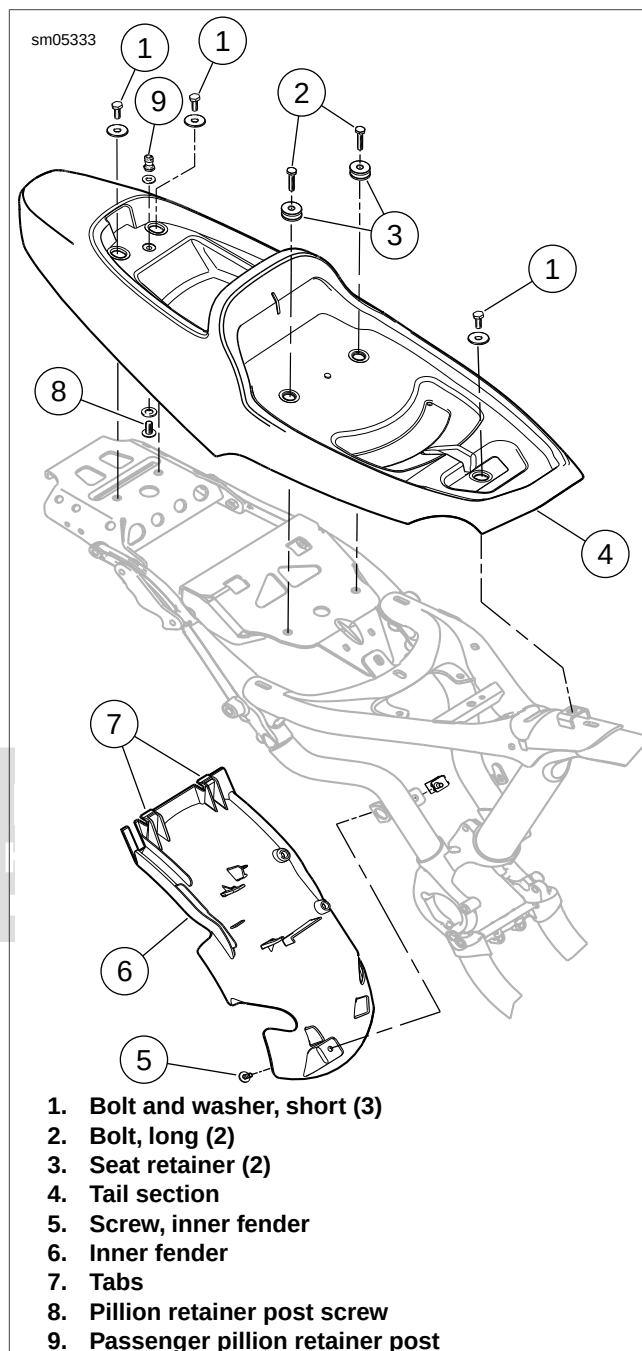

Figure 2-246. Rear Fender: XR Models
3. See Figure 2-246. Remove three bolts and washers (1). Remove two bolts (2) and retainers (3). Lift tail section (4) off from motorcycle.
4. Remove screw (5). Rotate inner fender (6) down and release tabs (7) from notches in frame.
1. See Figure 2-246. If removed, install passenger pillion retainer post (9). Tighten screw (8) to 36-60 **in-lbs** (4.1-6.8 Nm).
4. Ensure tabs (7) are located in notches in frame and secure inner fender with screw (5). Tighten to 72-120 **in-lbs** (8.1-13.6 Nm).